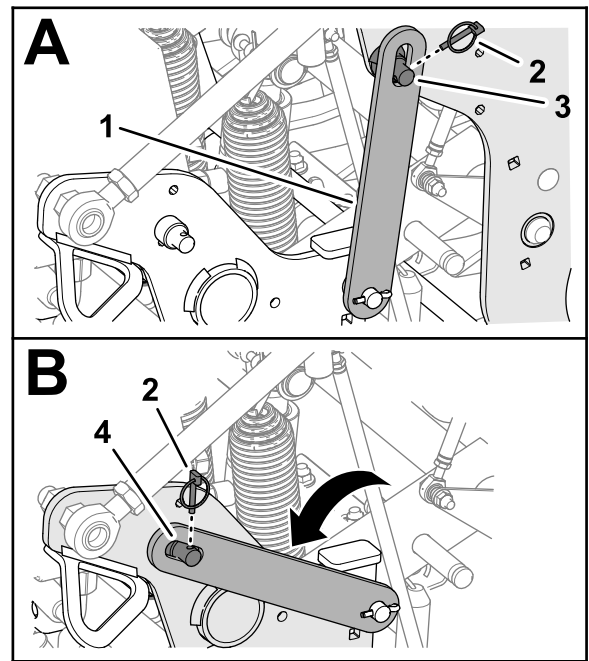

Figure 103
3. Remove the lynch pin securing the service latch to the support pin of the coring head (Figure 103).